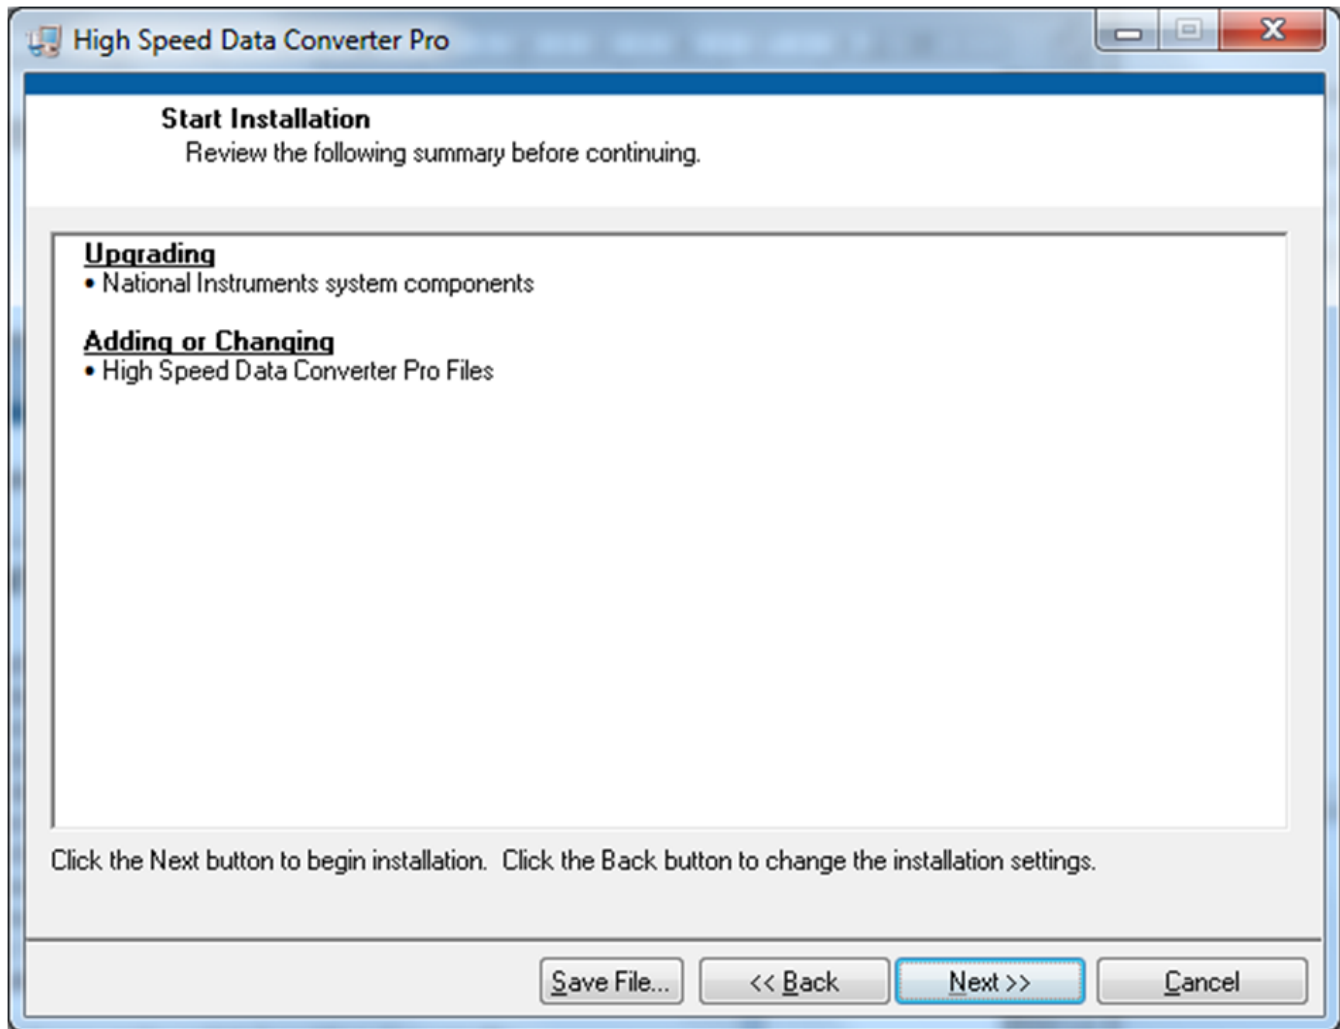

Figure 44. HSDCPro Install (Start Installation)
- Press the *Next* button as shown in Figure 44.